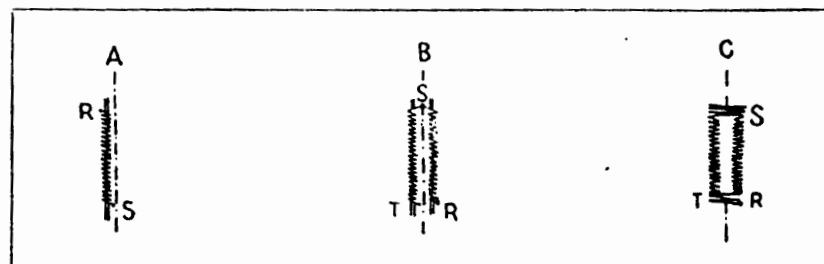

Fig. 24
16. Lower the presser foot—sew approx. 10 stitches from U-R (Fig. 24 E).
4. Start sewing the first side of the button hole to the length desired, from R to S as shown in Fig. 24 A.
6. Turn material Right 180° using needle as pivot axis. See Fig. 24 B.
8. Sew a few full width stitches as shown in Fig. 24 C.
Sew second side of buttonhole to T as shown in Fig. 24 B.
10. When you have reached the desired length, close the end by setting zigzag width indicator to 5 and make a few full width stitches, as shown in Fig. 24 C.